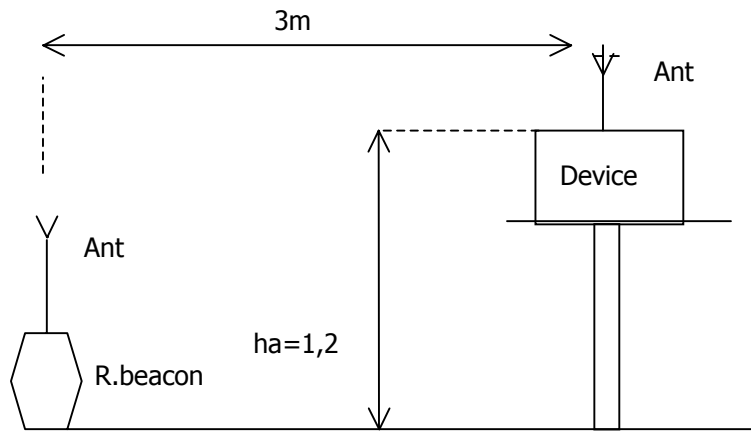

Figure 4. Position of object to be tested
- 6.3.5. Check the BEACON with the device power supplied from the internal block of accumulators according to fig. 4.